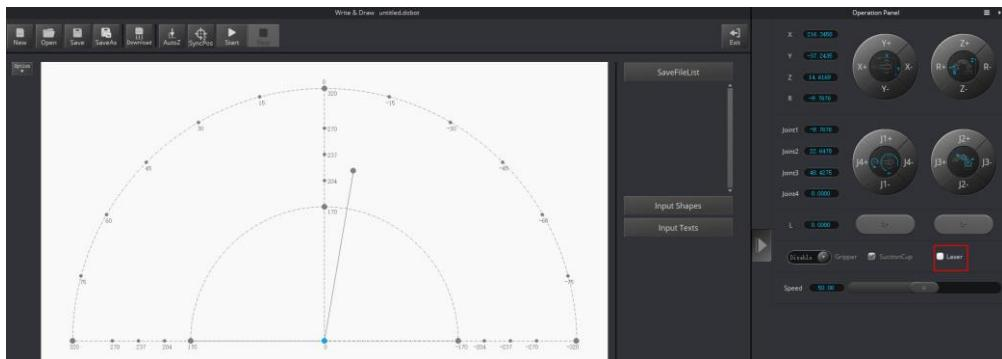

Figure 5.68 Unselect the Lasers
**Step 3** Press and hold the unlock button  on the Forearm to move the robotic arm to raise and lower the height of the laser kit until the laser is the brightest with a smallest possible spot size. When the laser power level is high enough, the laser beam can burn and cut the paper. After getting a pretty good focus, unselect **Laser** on the **Operation Panel** page to turn off the laser, as shown in Figure 5.68.